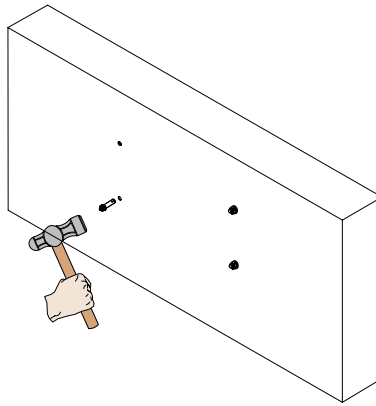

Figure 16. Inserting Concrete Wedge Anchors
6. Insert a concrete wedge anchor into each hole (Figure 16).